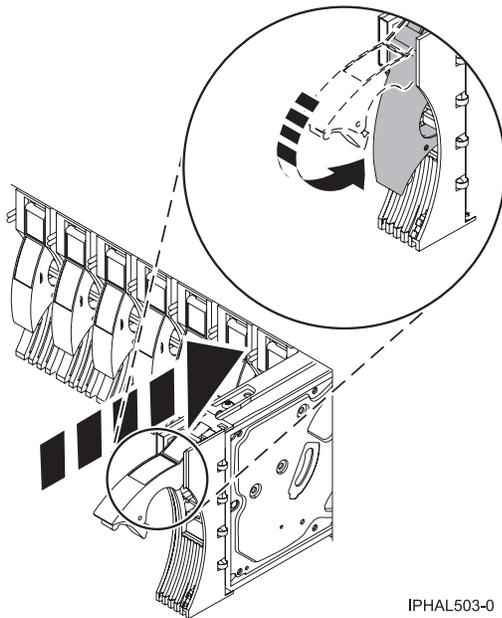

Figure 35. Installing a disk drive in a model or 11D/20
12. Slide the disk drive all the way in into the system or expansion unit and then lock it in place by pushing in the disk drive handle as shown in Figure 35.